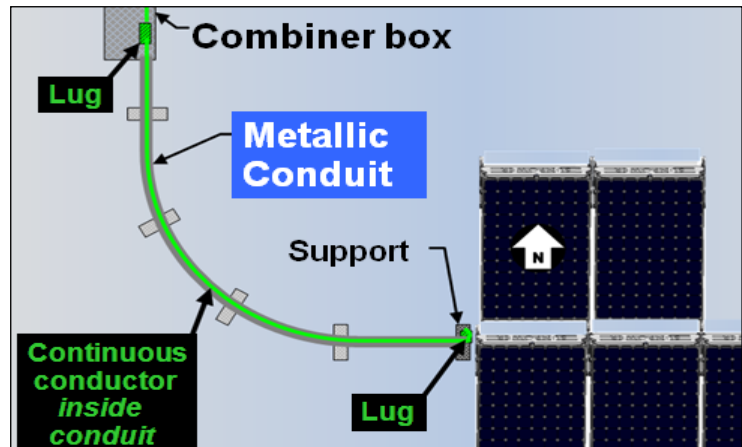

Fig. 85
- Attach the permanent copper ground conductor to the lay-in lug; route it *through* the conduit; and land it in the combiner box (Fig. 85).